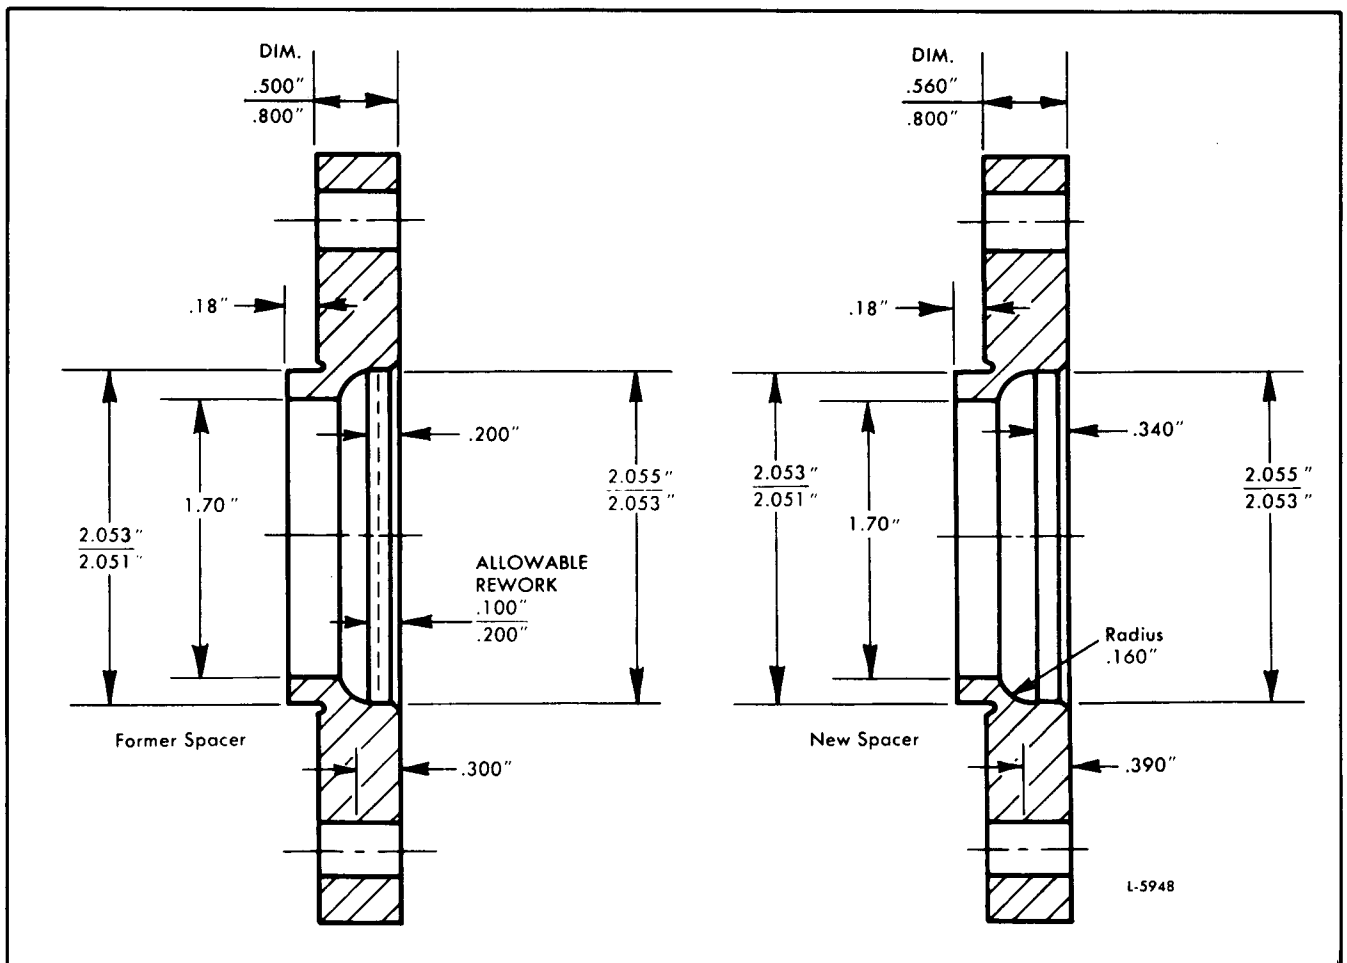

Fig. 1 - Former and New Spacers
The new fan hub spacers are similar to the former spacers except for the flange pilot radius and the width of the spacers (Fig. 1). The flange on the spacer serves as a pilot for the fan, as well as a pilot for the second spacer when two or more spacers are used together.
SERVICE: The former .800" thick spacer can be reworked into the new .800" thick spacer by removing material at the radius (Fig. 1). A reworked spacer should be mated with the fan hub assembly. If a former thin spacer (.500" thick) is used in conjunction with the reworked thick spacer, it should be positioned against the fan.
2. Drill and tap the fan hub, at the location shown in Fig. 1, to accept a 1/8" PTF x 11/16" threaded lubricator fitting. Clean the hub to remove any metal chips.
4. Install a *new* fan hub cap which is threaded for a relief valve (Fig. 1).